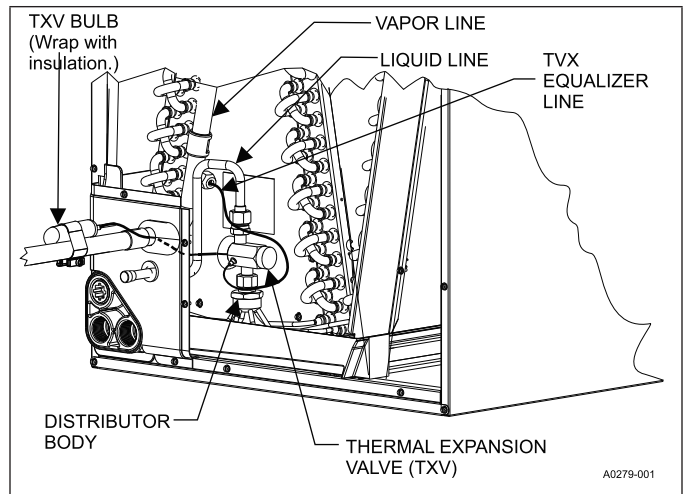

FIGURE 11: TXV Bulb Installation
- Install the TXV equalizer line onto the vapor line by hand tightening the 1/4" SAE coupling nut to the equalizer fitting, and apply an additional 1/3 turn to seal. See Figure 11.
- Install the TXV bulb to the vapor line near the cabinet, using the bulb clamp(s) furnished with the TXV assembly. Ensure the bulb is making maximum contact. See Figures 11 and 12.